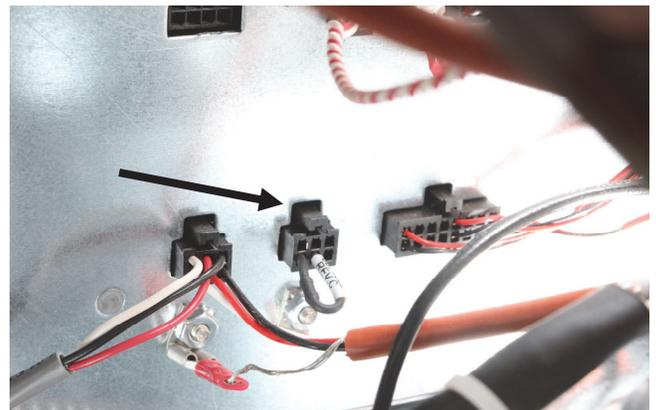

Figure 4: The CAN terminator removed from the LON board is shown in position J10 on the rear of the ATO box..
13. Place the CAN terminator removed from J202 on the LON board in J10 at the rear of the ATO box (the position the CAN cable was removed from). **See Figure 4.**